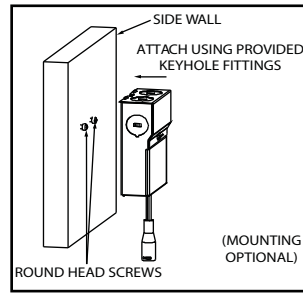

Figure 4 / Figura 4 / Schéma 4
4. Place remote driver box thru the cut-out hole. If remote driver box need to be attached, use provided keyhole fittings on the back of the box to hang it using round head screw (not included). (Figure 4)